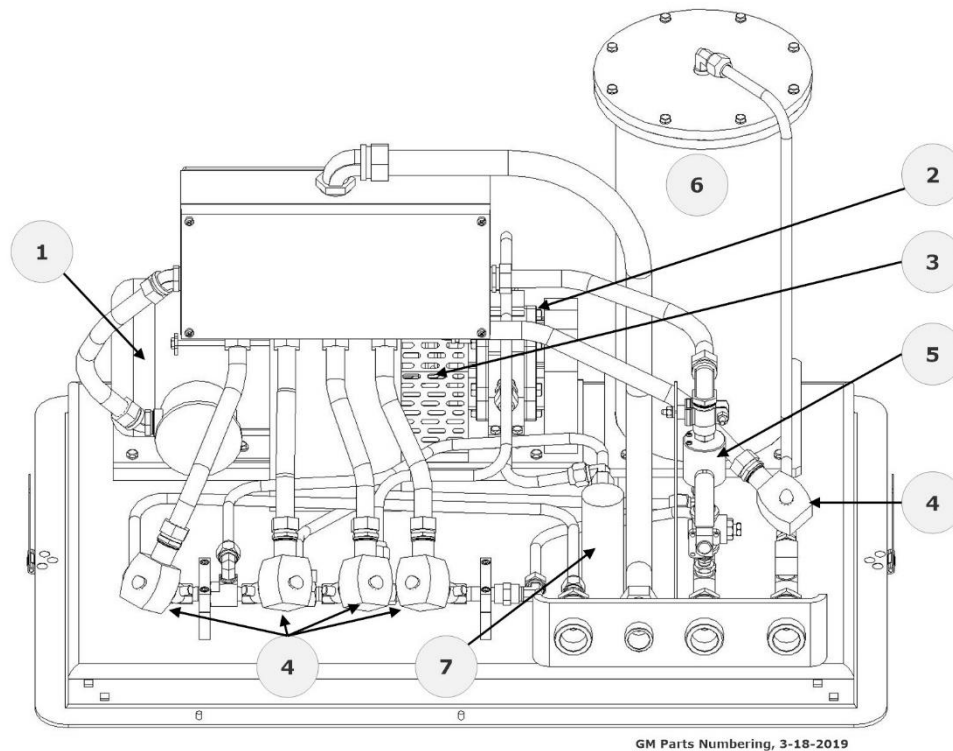

Figure 9-1: North America GREEN MACHINE Replacement Parts
- The North America GREEN MACHINE parts shown in the picture and table below must be supplied by VST. See Figure 9-1.